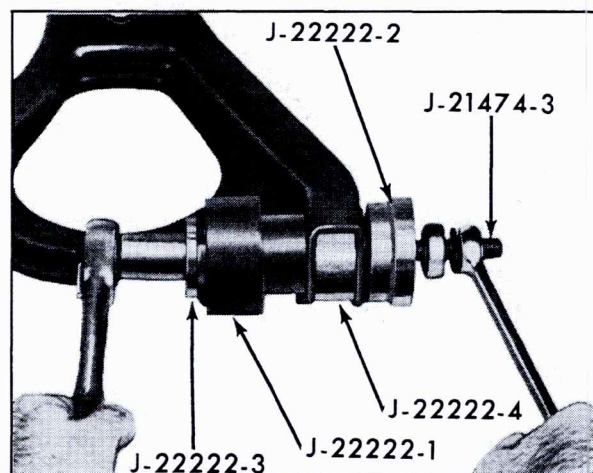

Fig. 3-47 Installing Upper Control Arm Bushings
2. Install tools as shown in Fig. 3-47 and press bushings into control arm.